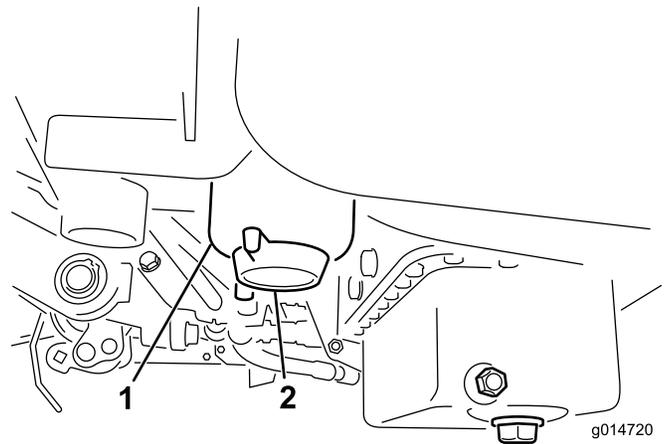

Figure 50
2. Clean the area where the filter canister mounts (Figure 50).
4. Open the filter drain plug (Figure 50).